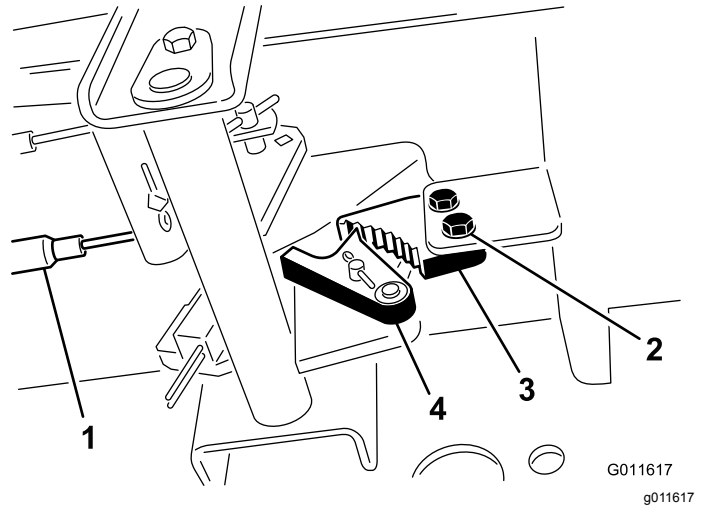

Figure 99
1. Loosen the 2 screws securing the parking-brake pawl to the frame (Figure 99).
2. Press the parking-brake pedal forward until the brake detent completely engages on the brake pawl (Figure 99).